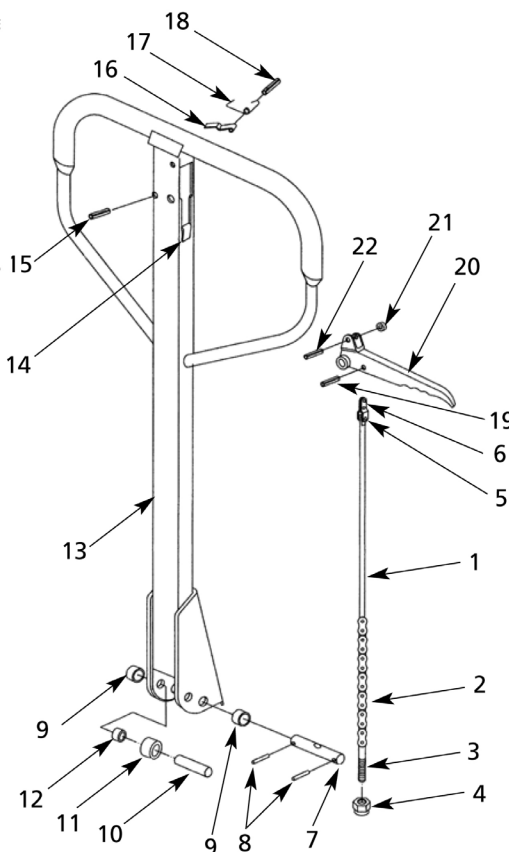

Figure 5 – Repair Parts Illustration for Pallet Truck Handle
2. Lay pallet truck on either side. Position screw plug of hydraulic cylinder upwards. (Fig. 5, No.14)